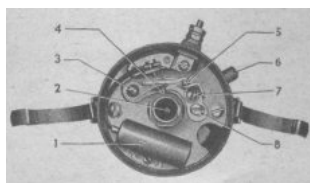

FIG. 7 -- DISTRIBUTOR
- Remove the distributor cap and inspect the contact points. Adjust the points to .020" (0.51 mm.) gap. See Fig.7 No.5.